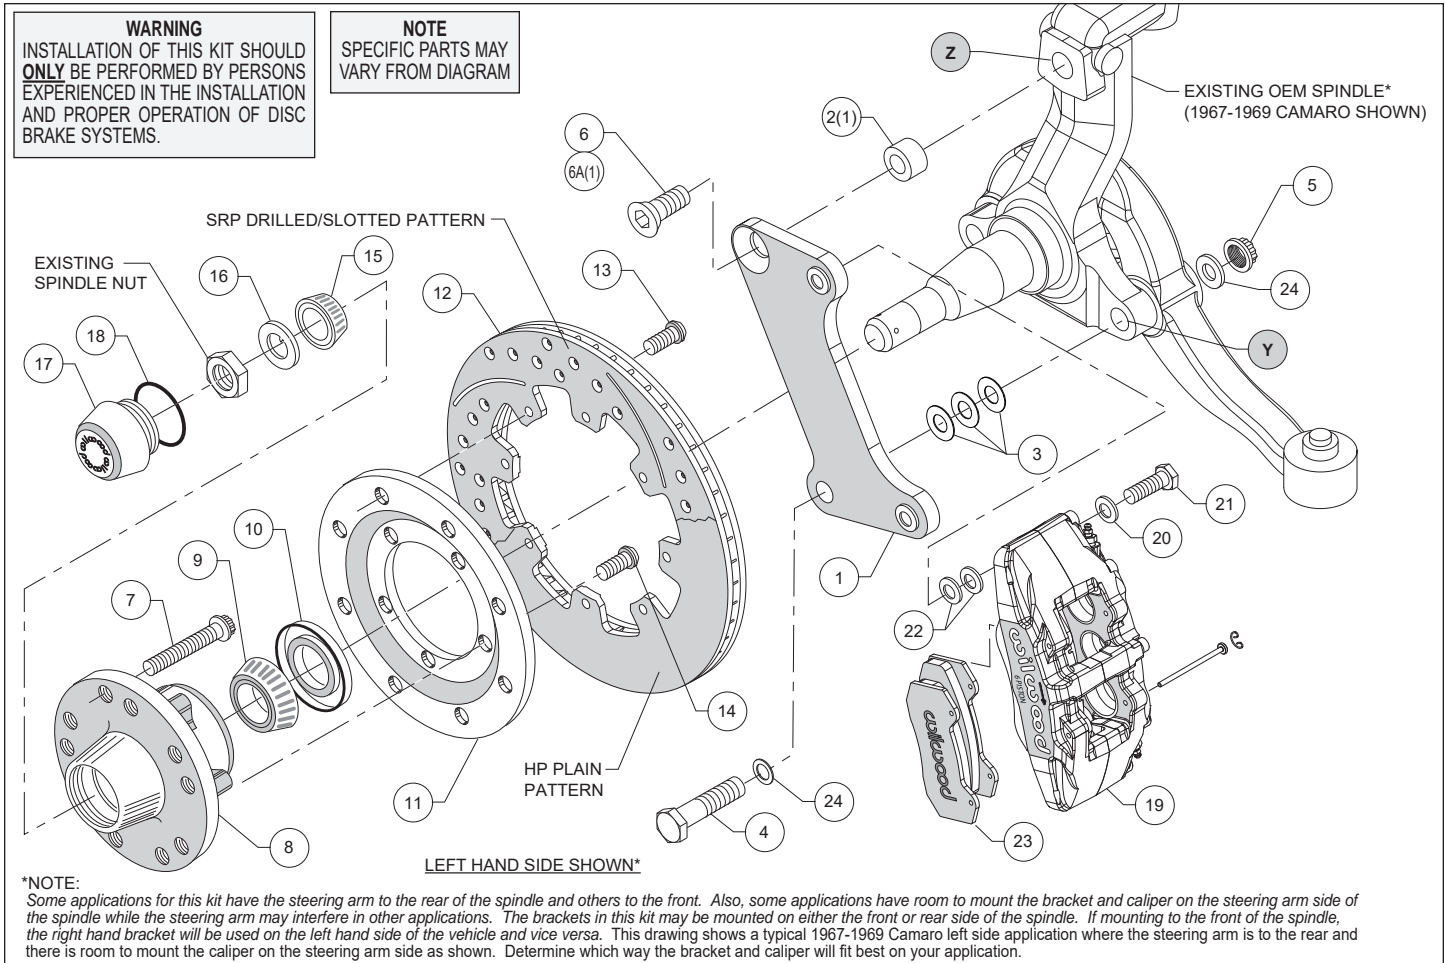
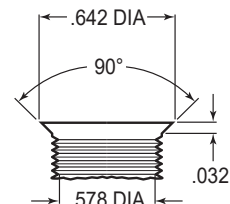
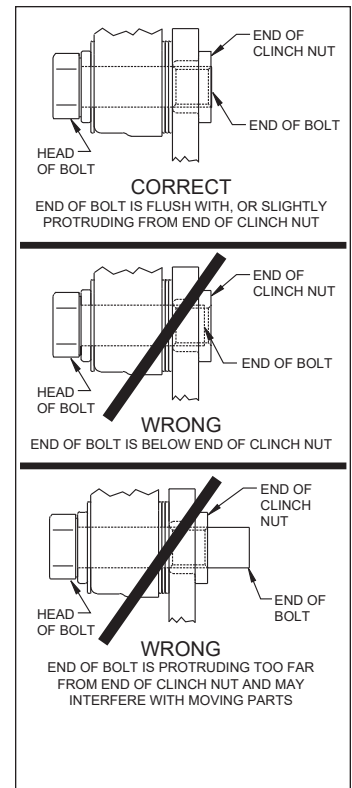

Figure 1. Typical Installation Configuration
Figure 3. Drill and Tap Detail
Figure 4. Clinch Nut Engagement Diagram
**Assembly Instructions** (numbers in parenthesis refer to the parts list and Figure 1 on the preceding page): **CAUTION:** All mounting bolts must fully engage clinch nuts. Be sure to check that all bolts are either flush or protruding through flanged side of clinch nut after shimming, Figure 4.
•**NOTE:** Some applications for this kit have the steering arm to the rear of the spindle and others to the front. Also, some applications have room to mount the bracket and caliper on the steering arm side of the spindle while the steering arm may interfere in other applications. The brackets in this kit may be mounted on either the front or rear side of the spindle. If mounting to the front of the spindle, the right hand bracket will be used on the left hand side of the vehicle and vice versa. Figure 1 shows a typical 1967-1969 Camaro left side application where the steering arm is to the rear and there is room to mount the caliper on the steering arm side as shown. Determine which way the bracket and caliper will fit best on your application.
•**NOTE:** Some spindles in this year range may require the following modifications (reference Figure 1 and Figure 3): Top anchor pin hole (Z) must be drilled and tapped to the dimensions as outlined in Figure 3. The lower bolt hole (Y) in the spindle used to mount the new caliper bracket, and the mating steering arm hole, must be enlarged to .50" by drilling. It is recommended these modifications be performed by a qualified machinist.
- Install wheel studs (7) into the hub (8), Photo 1. Torque to 77 ft-lb. **NOTE:** There are two five lug patterns in the hub (5 x 4.50 and 5 x 4.75). Ensure the correct hub stud pattern is being used to fit the wheel application.
- Pack the large inner bearing cone (9) with high temperature disc brake bearing grease (available from your local auto parts store) and install into the backside of the hub (8), Photo 2.
- Install the grease seal (10) by pressing into the backside of the hub (8), flush with the end of the hub, Photo 2.
- Orient the rotor (12) and the rotor adapter (11) as shown in Figure 1 and Photo 3. Attach the rotor to the adapter using bolts (13). Using an alternating sequence, apply red *Loctite*® 271 to the threads, and torque to 25 ft-lb.
- Mount the adapter/rotor assembly (11 and 12) to the hub (8) using bolts (14), as shown in Figure 1 and Photo 4. Using an alternating sequence, apply red *Loctite*® 271 to the threads, and torque to 45 ft-lb.
- Disc Brake Spindle Application Only:** Follow the instructions below, but instead use bolt (6A), and spacer (2) in the upper bolt hole location, Figure 1.
- Orient the flat bracket (1) as shown in Figure 1 and Photo 5, and install using bottom bolt (4), washers (24), and nut (5), Figure 1. Initially place three .032" thick shims (3) between the bracket and spindle. Install the upper bolt (6 or 6A), Photo 6. Ensure that the flanged heads of the clinch nuts in the bracket are facing outboard. Temporarily tighten bolts. **NOTE:** *The bracket must fit squarely against the mounting surfaces on the spindle.* Inspect for interference from casting irregularities, machining ridges, burrs, etc. Temporarily install the hub/rotor assembly. Check that the bracket is aligned parallel to the rotor, Photo 7. If not, adjust by adding or subtracting shims (3) on the lower bolt between the bracket and spindle, Figure 1. Once the bracket alignment is correct, remove the upper bolt (6 or 6A), apply red *Loctite*® 271 to the bolt threads, and torque to 120 ft-lb. Torque the lower lock nut to 65 ft-lb.
- Pack the small outer bearing cone (15) with high temperature disc brake bearing grease and install into hub (8). Slide the hub/rotor assembly onto the spindle. Secure using spindle washer (16) and OEM spindle nut, Photo 8. Adjust bearings per OEM specifications. Install saved OEM nut lock (if any) and a new cotter pin (not included).
- Screw dust cap (17) into hub (8). Friction created by the o-ring (18) on the dust cap keeps it from unscrewing. **NOTE:** *The O.D. of the existing OEM spindle washer may be larger than the I.D. of the dust cap not allowing it to seat against the hub face. Therefore, use the spindle washer (16) supplied with the kit instead of the OEM washer.*
- NOTE:** *Please reference the caution statement at the beginning of the assembly instructions. This kit contains distinct right and left hand calipers that must be mounted in a specific direction, as described below.* Mount the caliper (19) onto the caliper bracket (1) using bolts (21) and washers (20), as shown in Figure 1. Initially place two .035" thick shims (22) on each bolt between the caliper and the bracket, Photo 9. Ensure that the caliper is mounted so the largest pistons are at the rotor exit end of the caliper, in relation to the direction of rotor rotation. Temporarily tighten the mounting bolts and view the rotor (12) through the top opening of the caliper. The rotor should be centered in
the caliper, Photo 10. If not, adjust by adding or subtracting shims (22) between the bracket and the caliper. Always use the same amount of shims on each of the two mounting bolts. **NOTE:** The end of the bolt must be flush with or slightly protruding from the head of the clinch nut in the bracket. If necessary, place spare shims between the washer and the caliper mounting ear to achieve the proper clinch nut engagement, as shown in Figure 4. Once the caliper alignment and clinch nut engagement are correct, remove the mounting bolts and caliper.
- Remove the two pad retaining pins from the caliper (19) by carefully popping out the pin retaining clips and sliding out the pins. Insert the brake pads (23) into the caliper from the bottom, Figure 1 and Photo 11, with the friction material facing the rotor. Secure the brake pads in place with the pad retaining pins and clips, Photo 12. Reinstall the caliper onto the caliper mounting bracket. Apply red *Loctite*® 271 to bolt threads (21), and torque to 40 ft-lb.